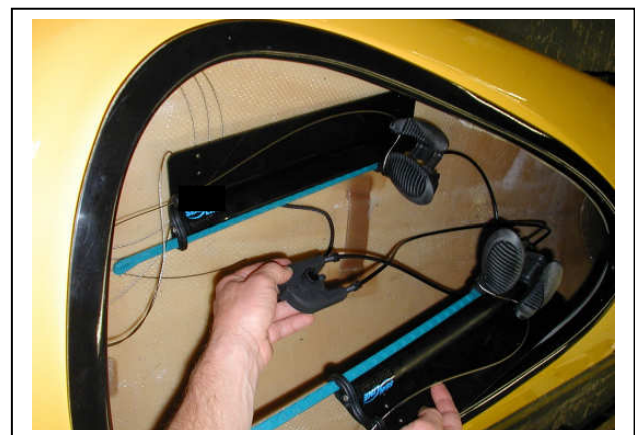

Fig. 8 Insert full assembly into cockpit.
a. Carefully set the full Trim Tab/Foot Control assembly into the cockpit of the kayak. (Fig. 8)